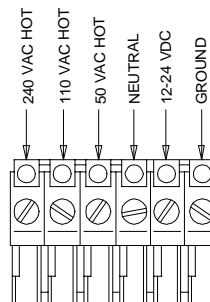

Figure 2.13: Input Power Connections
1. Refer to Figure 2.13: Input Power Connections to determine the appropriate power input block tie in points.
4. Connect incoming power to the 6 point terminal block as shown in Figure 2.13: Input Power Connections per customer requirement.